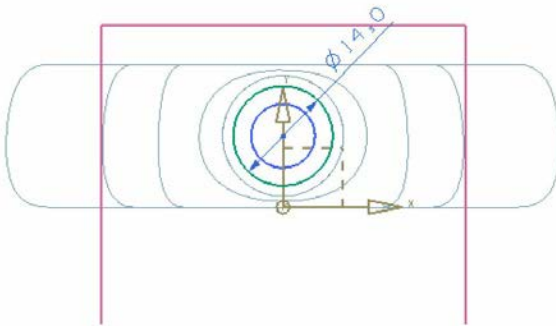

Figure 11-62 Sketch for the through curve surface
2. Create the sketch of the twelfth feature by selecting the offset plane as the sketching plane, refer to Figure 11-62.